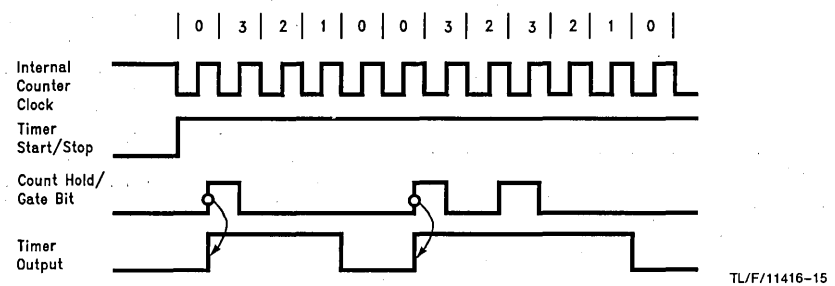

FIGURE 11. Timing Waveforms for Timer Mode 3, MFO Output Programmed Active High
Once the timer Start/Stop bit is set the output stays inactive, and nothing happens until the Count Hold/Gate (CHG) bit is set in the timer control register. When a transition occurs the one shot output is set active immediately; the counter is loaded with the value in the input register on the next transition of the input clock and the countdown begins. If a retrigger occurs, regardless of the current counter value, the counters will be reloaded with the value in the input register and the counter will be restarted without changing the output state. See Figure 11. A trigger count can occur at any time during the count cycle. In this mode the timer will output a single pulse whose width is determined by the value in the input data register (N) and the input clock period.